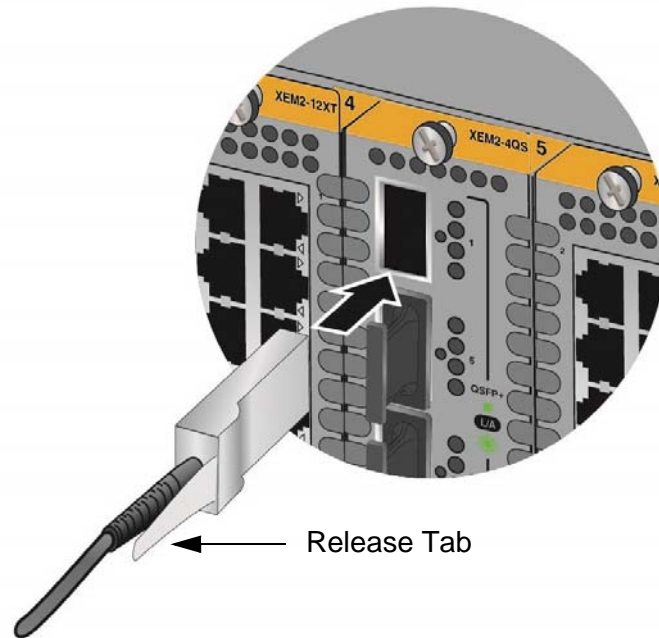

Figure 91. Sliding the AT-QSFPCU Cable into the Slot
2. Orient the connector on the AT-QSFPCU Cable with the release tab on the left side and slide it into the slot until it clicks into place. Refer to Figure 91 on page 127.